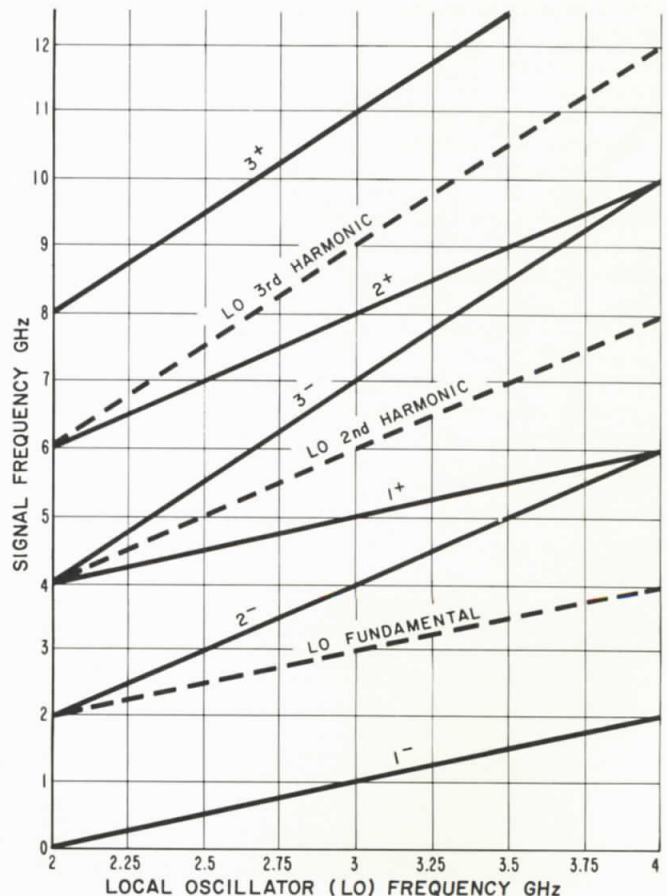

Figure 4. Tuning Curve of 851B/852A/8551B Spectrum Analyzer
As the fundamental of the analyzer's local oscillator (LO) tunes from 2 to 4 GHz, the analyzer responds to signal frequencies 2 GHz above and 2 GHz below the local oscillator frequency. These are shown on Figure 4 by the 1+ and 1- tuning curves and are called image responses. Similarly, the second harmonic of the local oscillator tunes 4 to 8 GHz and the third harmonic tunes 6 to 12 GHz. The analyzer response to signals is shown by the 2+, 2-, 3+, and 3- tuning curves for these mixing modes. This means that when the